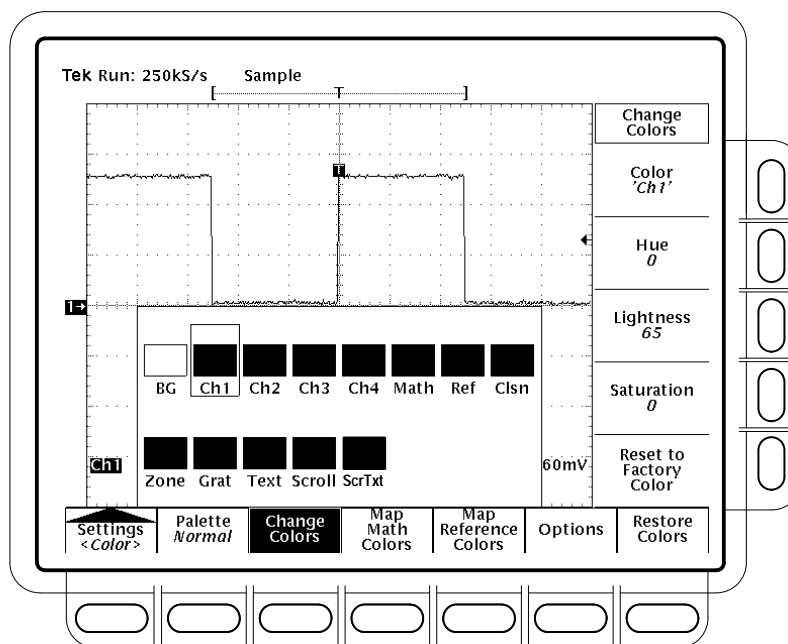

Figure 3–20: Display Menu — Palette Colors
1. Select the main menu **Change Colors** item. (See Figure 3–20.)